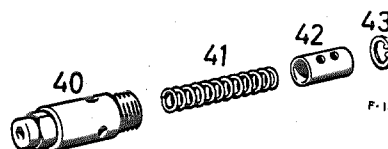

Figure 18-5/3
To do this, remove the lock ring (43), the piston (42) and the spring (41) from the valve housing (see Figure 18-5/3).